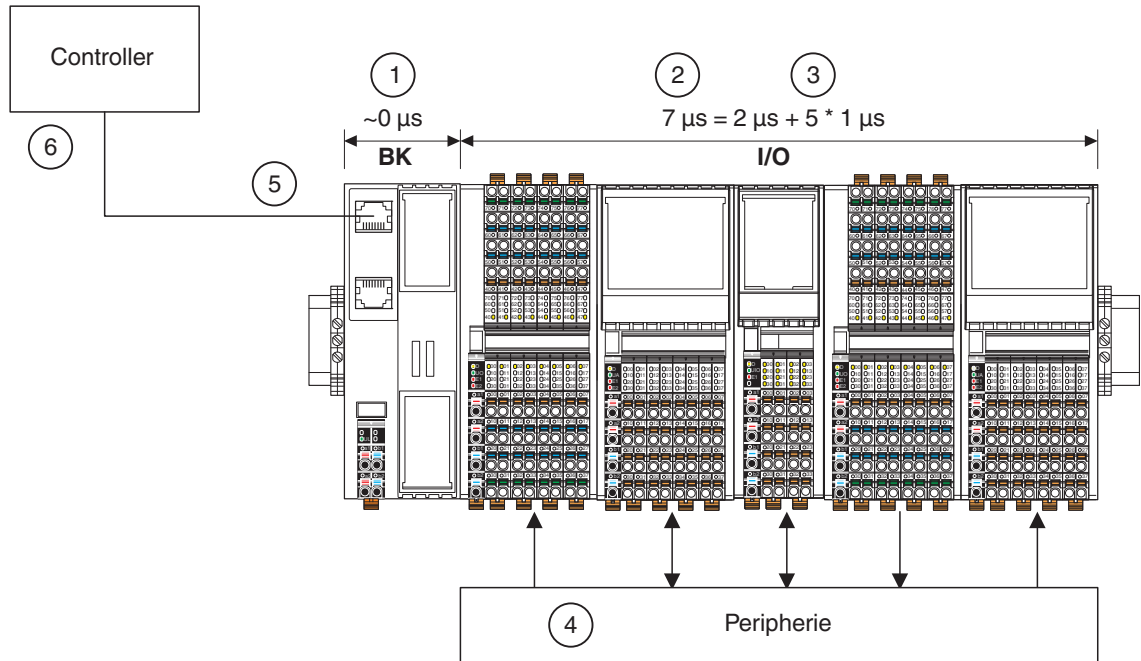

Figure A-2 Response times of the overall system
- The time for copying in the bus heads (bus coupler or controller; 1 in Figure A-2)
- The cycle time of the local bus (2)
- The conversion time in the I/O modules (3)
- The update time of the I/O modules (4)
- The update time of the higher-level network (5)
- The processing time (cycle time) in the controller (6)